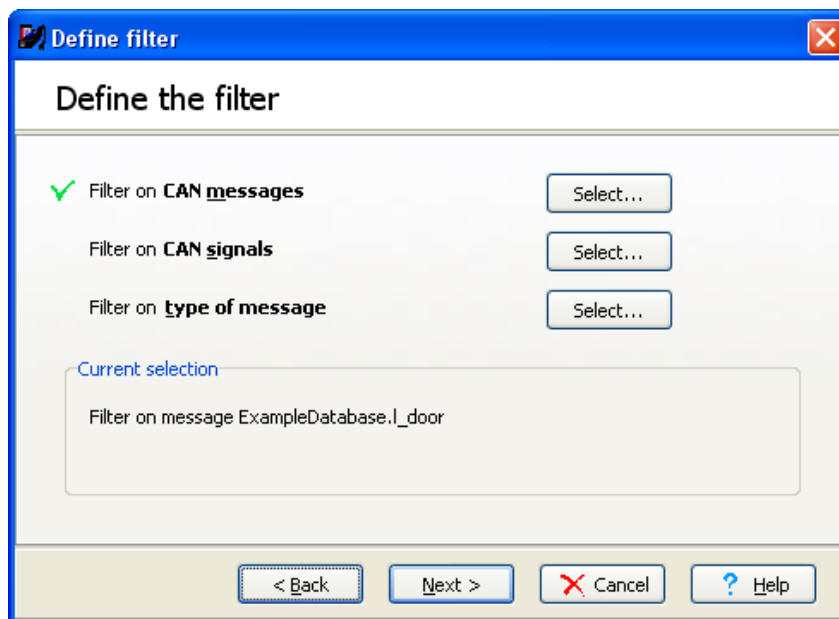

Figure 16. Define the filter.
- Click at the *Select* button beside Filter on CAN messages. See Figure 16.